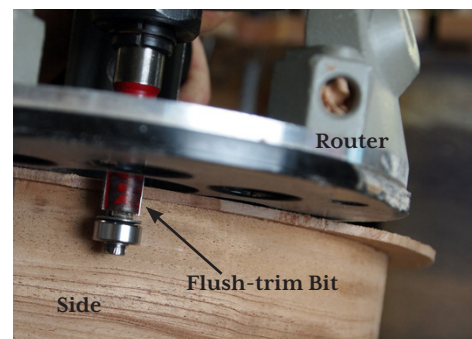

FIG. 9
- 9. Once the soundboard is installed and the glue is dry, you can trim it flush with the frame using a router with a flush-trim bit. (fig. 9)